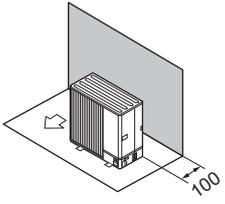

Fig. 1-6
- (1) Obstruction or closed surface at rear only (Fig. 1-6)